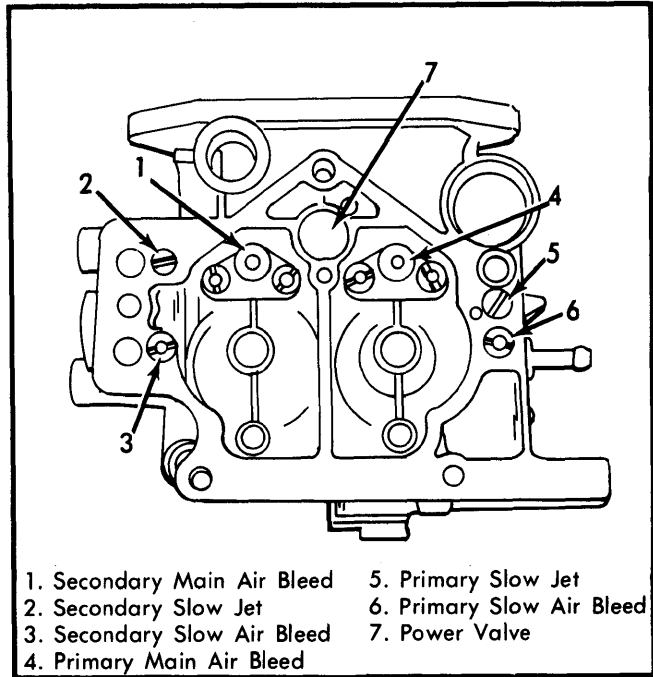

Fig. 10 Removing and Installing Jets and Air Bleeds
- 1) Remove carburetor and cover intake manifold port with clean shop towel to prevent dust and dirt from entering. Disconnect accelerator pump rod from lever and remove lever from main body. See Fig. 10.
- 6) Remove idle jets, main jets, and all air bleeds from main body. See Fig. 10. Remove power valve. Remove curb idle adjusting screw and spring from lower body. Remove primary and secondary discharge nozzles, retaining screws and washers. Remove nozzles and gaskets.